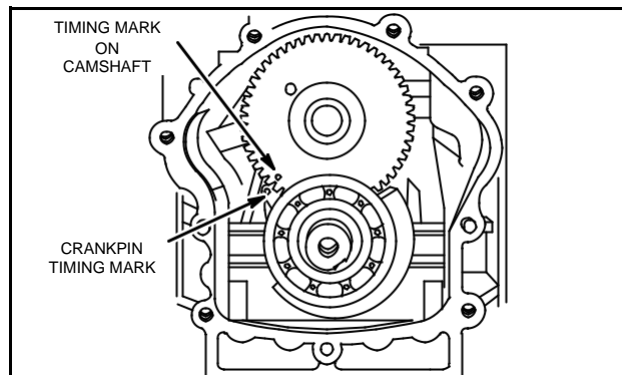

Fig. 4 – Remove Crankshaft – Ball Bearing Models
- a. Timing mark on crankpin and cam gear will be aligned when #2 crankpin is rotated to approximately 10 o'clock position, Fig. 4.